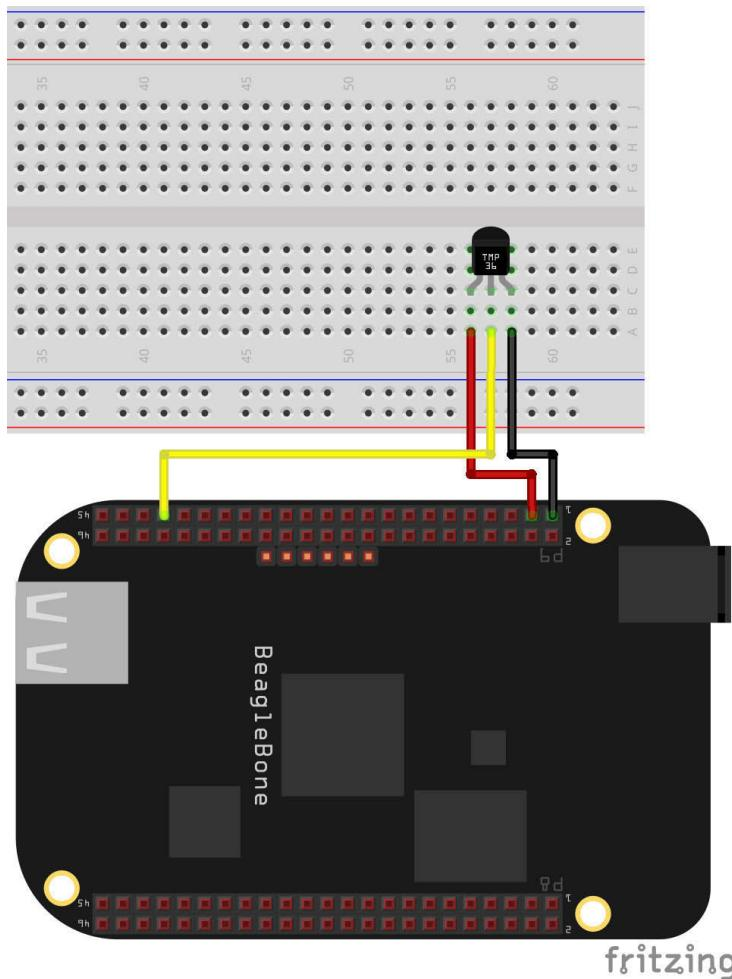

Figure 15-7:
- ✓ A temperature sensor TMP36, which has three pins wired as shown in Figure 15-7